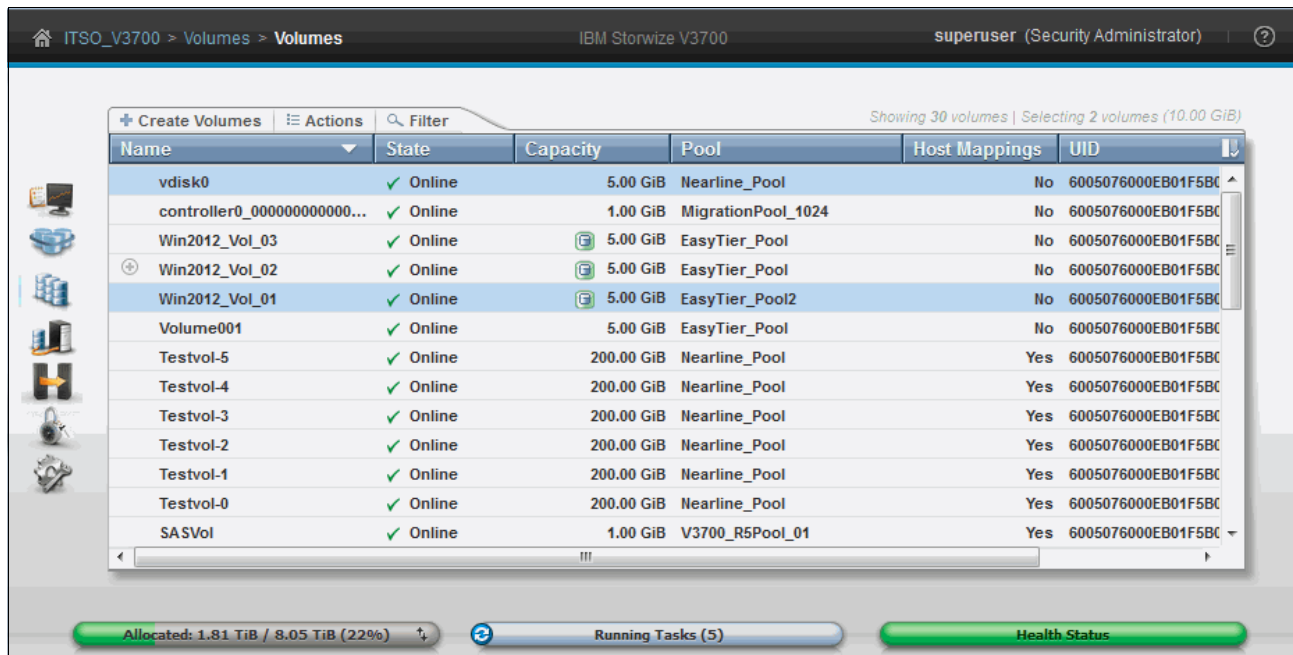

Figure 8-72 Volumes: New volume from split copy
2. After the task completes, click **Close** to return to the Volumes pane, where the copy displays as a new volume named `vdisk0` (unless a name was specified) that can be mapped to a host, as shown in Figure 8-72.